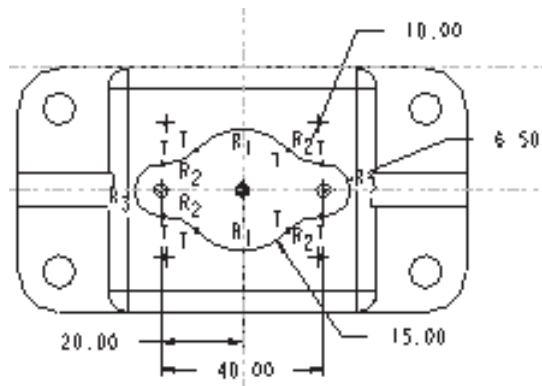

Figure 6-43 Sketch with dimensions and constraints for the extruded feature
4. After you enter the sketcher environment, draw the sketch of the extruded feature as shown in Figure 6-43.